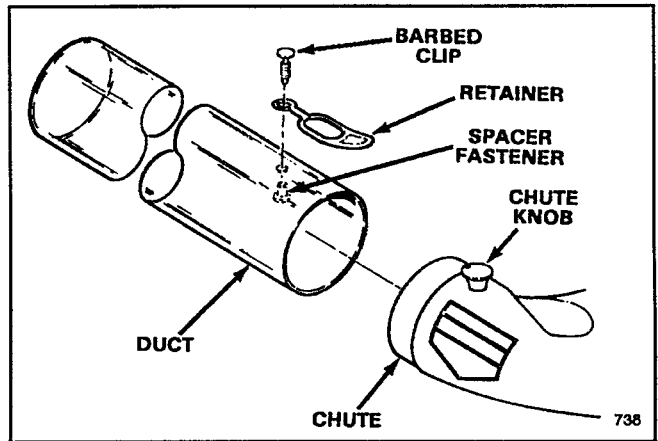

Figure 12
1. Secure retainer to duct with barbed clip and spacer fastener (Fig. 12).
2. Slide duct onto chute assembly, aligning duct retainer with chute knob. Hook retainer onto knob, securing assemblies (Fig. 12).